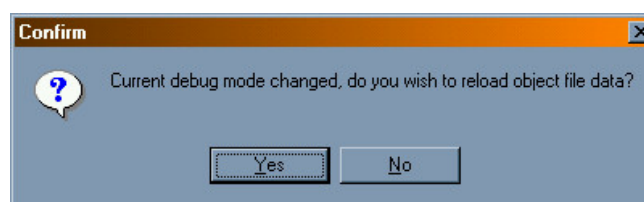

Figure 1-21. Programmer Confirm Window
27. If the Confirm window appears click Yes to reload object data. See Figure 1-21.